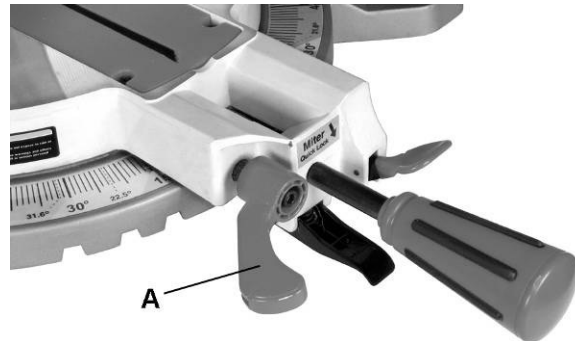

Figure 6
2. Turn the *bevel lock handle* (A, Fig. 6) clockwise to loosen and tilt the cutting arm to the 0° bevel angle. Turn the *bevel lock handle* (A) counterclockwise to tighten.
2. Loosen the *bevel lock handle* (A, Fig. 6) and tilt the cutting arm completely to the left.